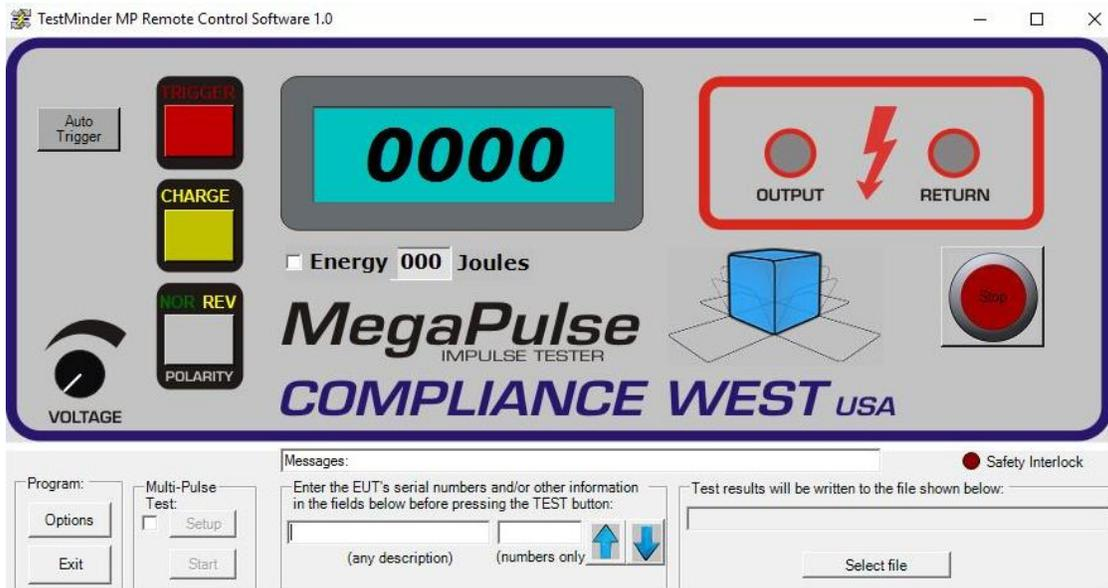
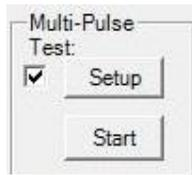

Figure 28 Main screen
Figure 33 Multipulse box
1. On the computer's main screen, open your Start Menu, look for the TestMinder_MP folder, open TestMinder P/PF to start the program or double click the shortcut on your desktop. The following screen is displayed (Figure 28):
1. On the main program screen (see Figure 28) first click the check box in the “Multi-Pulse Test” field (Figure 33). Two buttons will become available; “Setup” and “Start”. Click on the “Setup” button.